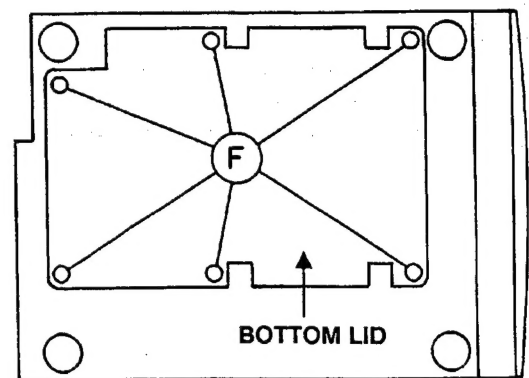

Fig. 5
- (1) Place the set on its side as shown in Fig. 5. At this time, in order not to cause scratches on the outer cover, place a cloth under the set.
- (2) Remove the 6 screws ⑥ and remove the bottom lid.